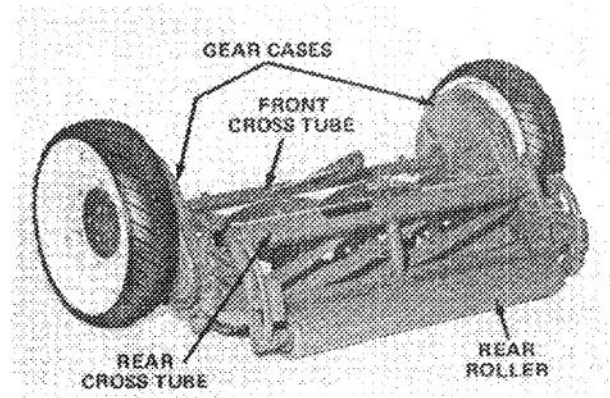

Figure 4
2. Stand behind the mower and check rear roller. Roller must be level with the flat surface (Fig. 4). If roller is level with flat surface, reel bearings should be checked; refer to Check Reel Bearings and Mower Fasteners, page 5. By contrast, use the instructions below if rear roller is not level with flat surface.
3. Loosen six nuts holding front cross tube to both gear cases (Fig. 4). Also loosen six cap screws holding rear cross tube to end of both gear cases (Fig. 4).
4. Press down simultaneously on both gear cases (Fig. 4) until a definite set is taken and roller touches — is level with — flat surface.